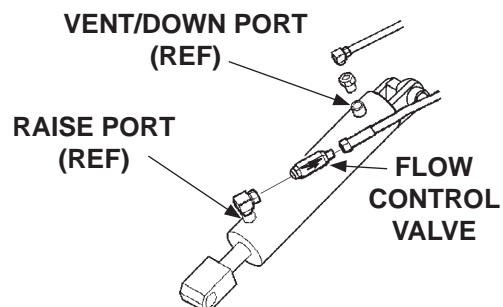

FIG. 54-3
7. Check if flow control valve (**FIG. 54-3**) is pointing to the direction of restricted fluid flow (back toward pump). If required, remove flow control valve and install it correctly (**FIG. 54-3**).